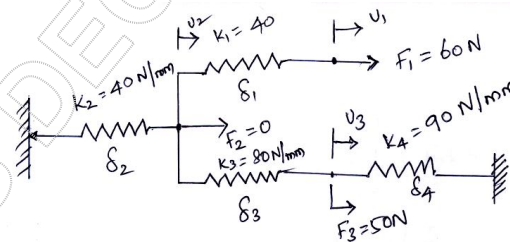

Fig. Q2 (a)
- 2 a. For the spring shown in Fig. Q2 (a). Determine the nodal displacement using principle of minimum potential energy.